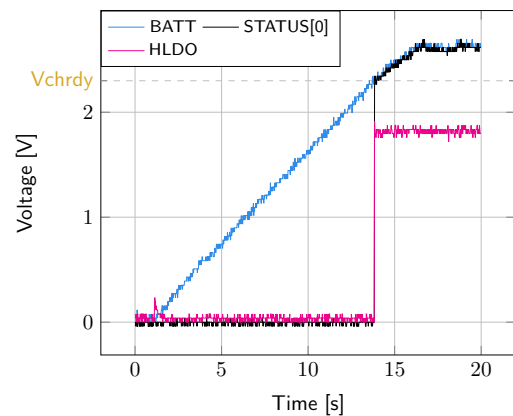

Figure 2: **STATUS[0]** and **HLDO** evolution with **BATT**
- **BATT**: Voltage rises as the power provided by the source is transferred to the storage element (see Figure 2).
- **HLDO/LLDO**: Regulated when voltage on **BATT** first rises above **V_{chrdy}** (see Figure 2).
- **STATUS[0]**: Asserted when the LDOs are ready to be enabled (refer to Section 7.2 "Normal mode" of the AEM10941 datasheet) (see Figure 2).